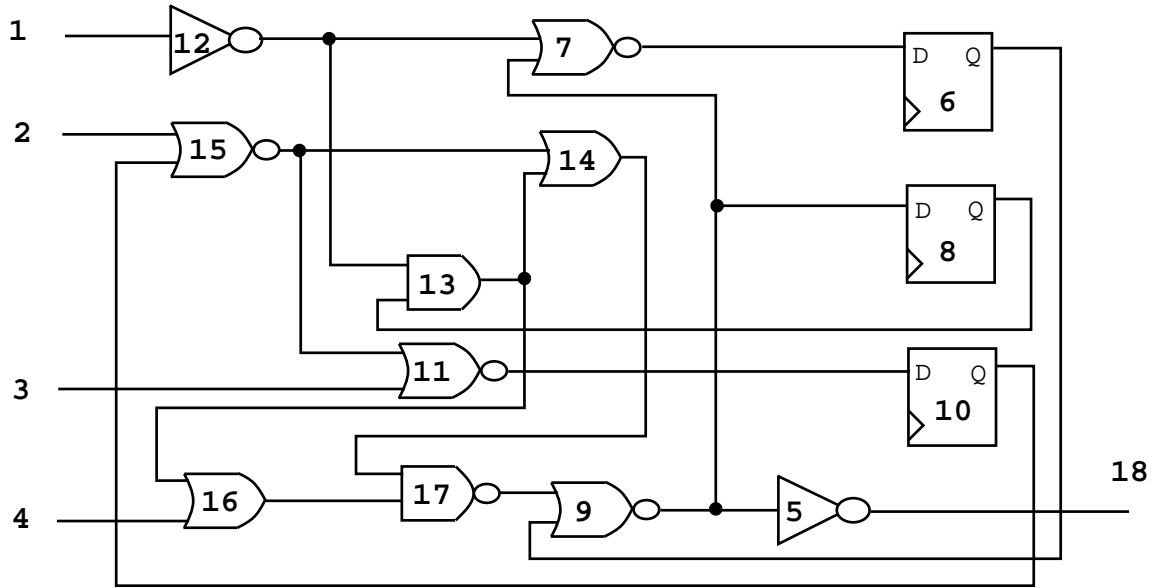

Figure 2: *s27* Circuit for Problem 14.17.
- 14.17 *Partial-scan*. Consider the circuit *s27* in Figure 2. Draw the s-graph for the circuit and identify the flip-flop(s) to be scanned such that all cycles are broken.